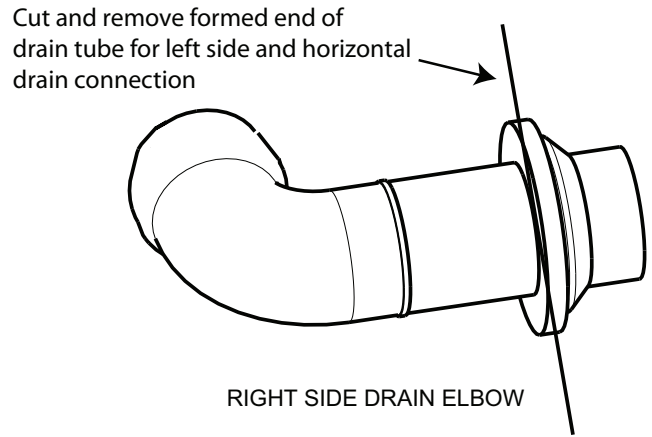

Fig. 2 - Modify Drain Tube
4. Remove the formed grommet on the tube to create an elbow or straight connector. See Fig. 2.